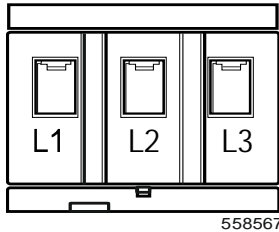
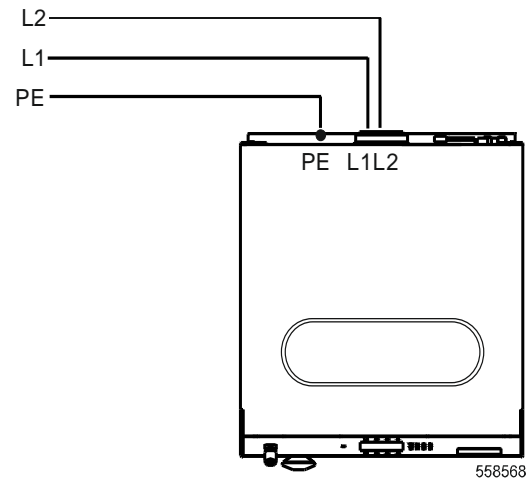
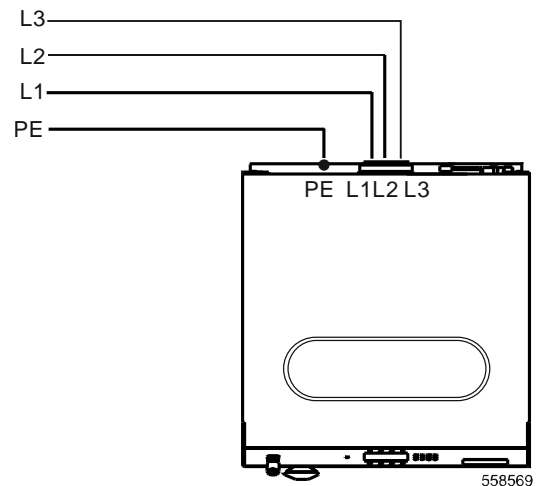

Figure 29 – Electrical connection terminal block
Figure 30 – North American models with single-phase connection
Figure 31 – North American models with three – phase connection
- Connect the electrical service's wires to the machine's electrical connection terminal as follows. Refer to Figure 30 for wiring connection details and to Figure 29 for electrical connection terminal details.
- Connect the electrical service's wires to the machine's electrical connection terminal as follows. Refer to Figure 31 for wiring connection details and to Figure 29 for electrical connection terminal details.